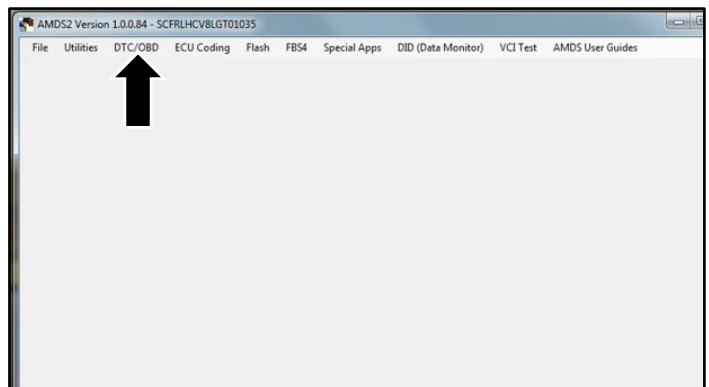

Figure 22
34. Click the “DTC/OBD” button (refer to Figure 22).